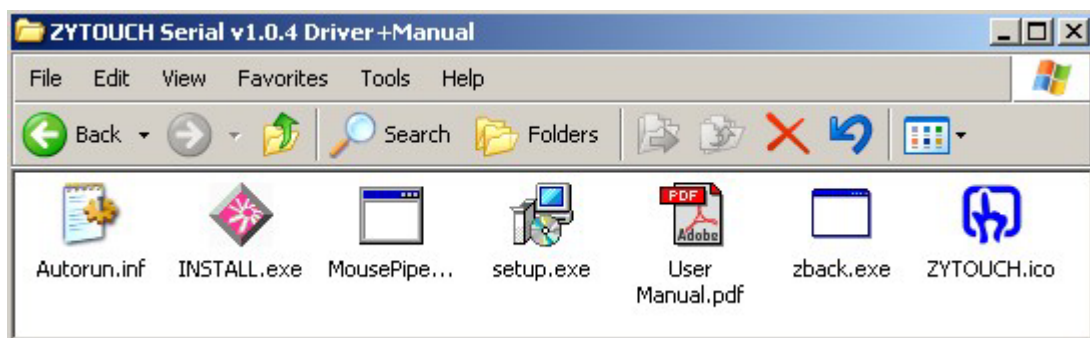

Figure 5: ZYTOUCH® Driver software Installation files
3. The Un-zipped files are illustrated in Figure 5.